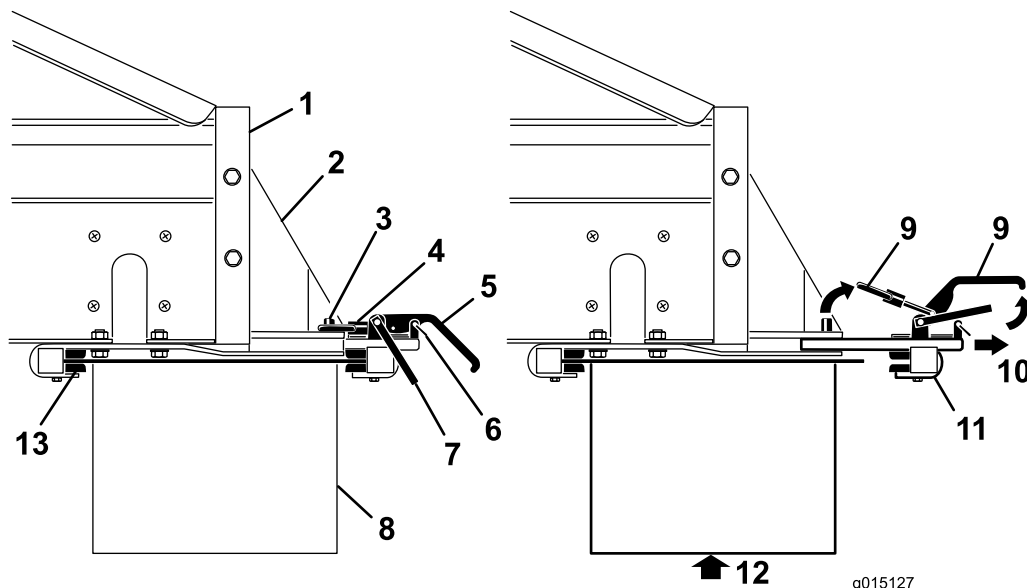

Figure 3
3. Remove the safety latch clips from the clamp handles (Figure 3).
4. Lift the safety latch, then lift the option attachment clamp handles, and release the lock rings from the lock pins (Figure 3).
5. Slide the rear option attachment clamp assembly out of the quick-attach slots (Figure 3).
6. With assistance, insert the front edge of the cross conveyor/swivel up and under the rear of the MH-400 into the front clamps on the brackets (Figure 3).
7. While supporting the cross conveyor/swivel, slide the rear option attachment clamp assembly back into the slots in the brackets, and over the rear edge (Figure 3).
9. Reinstall the safety latch clips to the clamp handles (Figure 3).